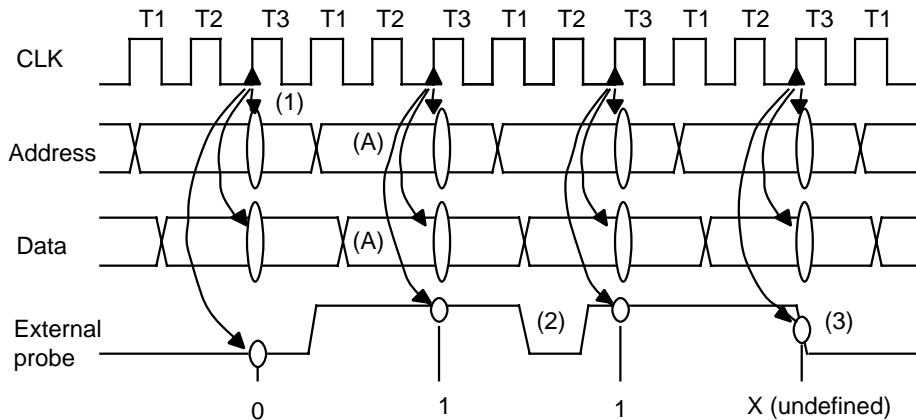

Figure 1.15 External Probe Signal Trace
In each bus cycle, the clock number is the number of clock (CLK) cycles between the end of the previous bus cycle and the end of the current bus cycle. Figure 1.15 shows an example of the external probe signal trace.
- Trace information is sampled at falling edges in the T3 cycles of CLK (figure 1.15 (1)).
- When the external probe signal changes between samplings, it cannot be reflected in the trace data (figure 1.15 (2)).
- When a sampling edge coincides with a change in the external probe signal, the trace contents are undefined (figure 1.15 (3)).
- Three clock cycles are traced in bus cycle (A).